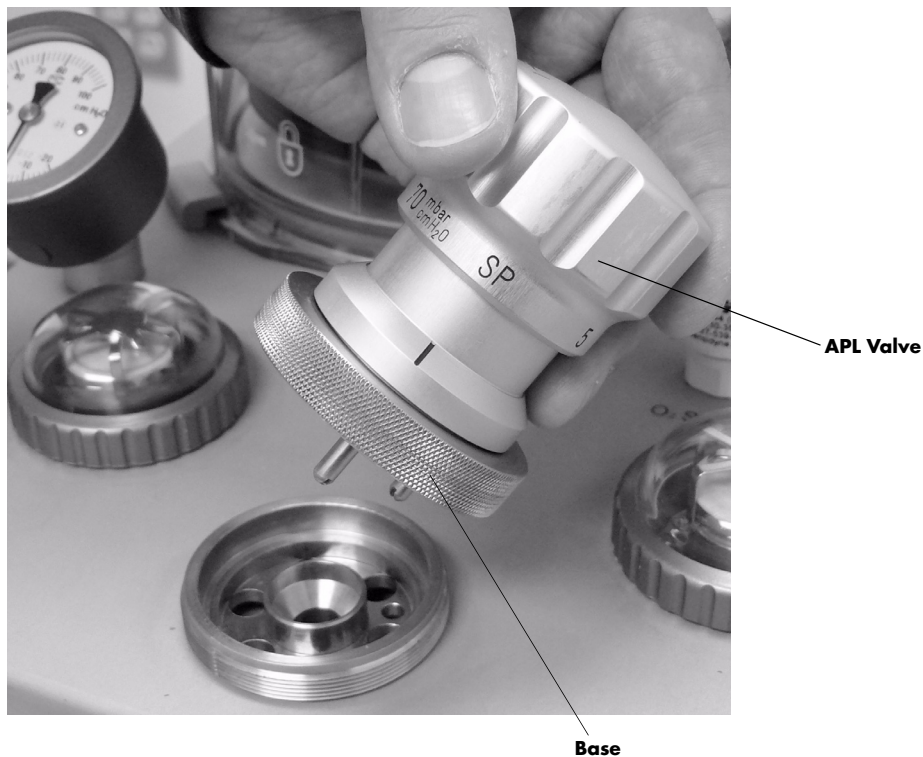

FIGURE 3-14 APL Valve Removal
1. Loosen the APL valve at its base by turning it counterclockwise, and then remove the APL valve as shown in FIGURE 3-14.